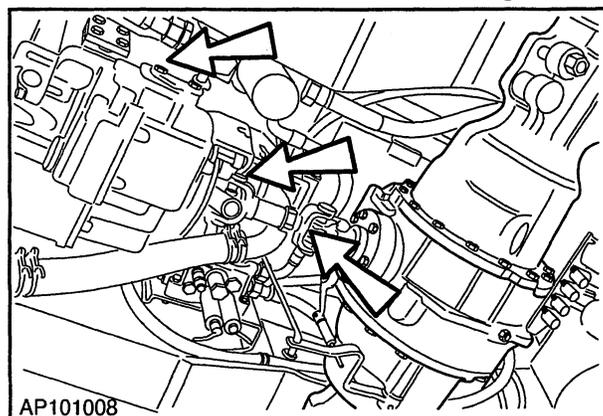

Figure 1-8
22. Remove front drive shaft (where fitted) and remove rear drive shaft, Figure 1-8.